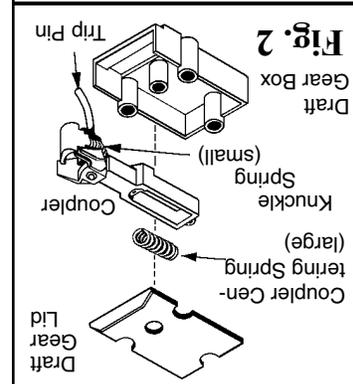

Fig. 2
4. Next, place the draft gear lid over the assembly as shown in Fig. 2. Test the centering action of the coupler by moving it to either side a number of times to be sure it snaps back to center consistently. 5. Coupler knuckle Springs are pre-installed. If one should come out during
distort the springs. undue pressure that is liable to any of these methods, avoid between to separate them. With gently work the blade down and between two coiled springs and insert a knife blade lengthwise apart. A third approach is to insert a knife blade lengthwise back and forth to work them cautiously rolling the springs upon the entwined springs, each the flat side of a steel rule lightly them to become uncoiled from surface of a small container, usually this is sufficient to cause the springs around the flat these. One way is to shake or roll the springs together. There are several methods of separating springs when they have become coiled together. There are necessary to separate the tiny and at times it will be found in the package during shipment coupler parts will move about 2. It should be mentioned, coupler in the order described and as shown in Fig. 2.